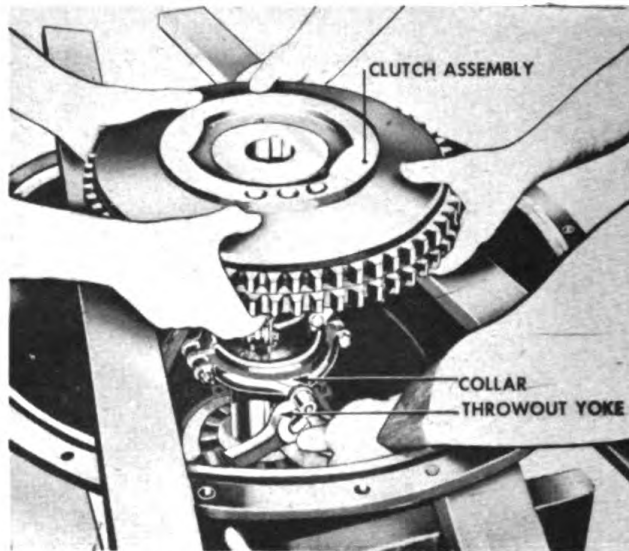

Figure 304. Removing or Installing Clutch Assembly.
C. Set the clutch housing onto an assembly stand or horse as shown in Figure 304 and loosen the clutch assembly from the shaft with a wheel puller as shown in Figure 303. Be sure
D. Lift the clutch assembly off the shaft as shown in Figure 304.
With the clutch housing and shaft setting on an assembly stand, lay two boards across the housing as shown in Figure 304. Lift the clutch assembly onto the shaft. Line up the throw-out yoke with the collar, remove the boards and slip the clutch assembly into place on the shaft. Install the lock plate and lock nut and bend the lock plate over the hub. See Figure 301.